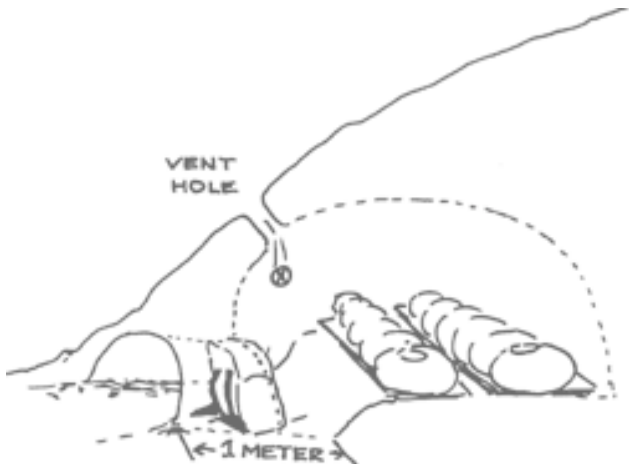

Figure 11-8: Vent hole in snow cave.
3. A vent hole the diameter of a tennis ball should be poked through the ceiling before operating a stove inside the shelter. (See figure 11-8).